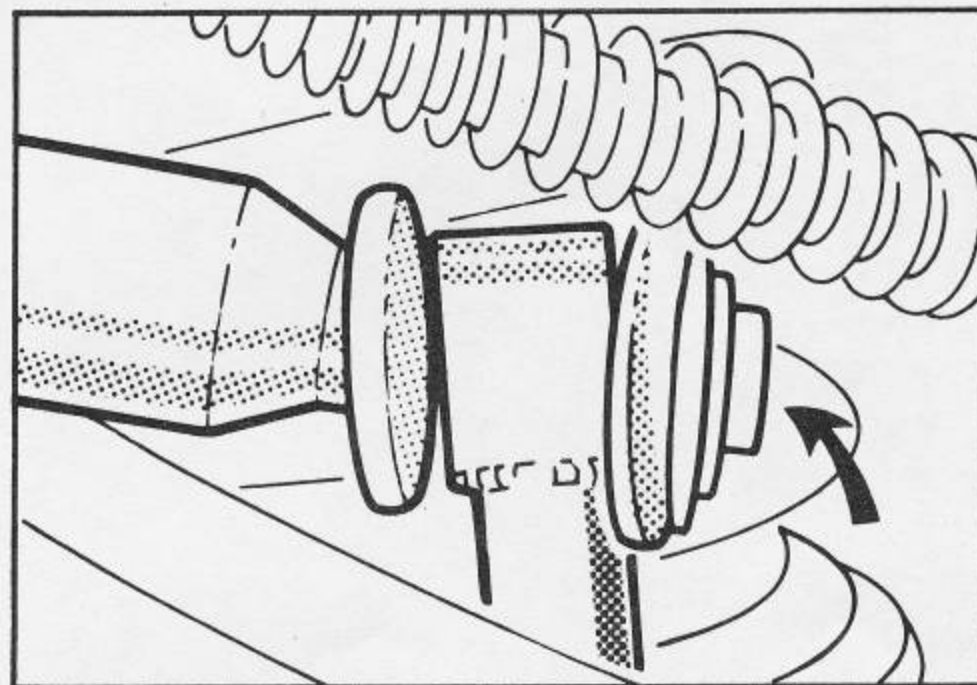

Fig. 49
7. Fit end of anti – roll bar into drop link and secure with new split pins. Fig.49